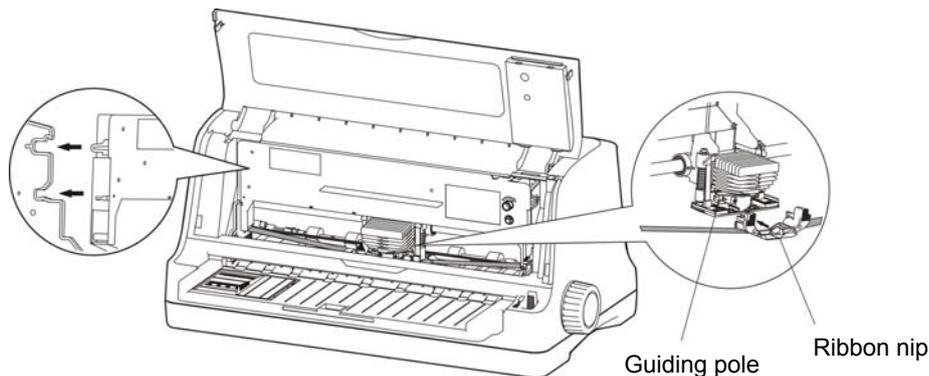

Figure 2-10 Install the ribbon cartridge
5. As shown in Figure 2-10, hold the middle position of the ribbon cartridge; make the buckles on the both sides aim at the slots of the printer, push it forward until it is locked in place. Then make the two holes of the ribbon nip aim at the two poles of the ribbon guide rack, and press them in place.
6. Make sure the ribbon core is smooth, and then turn the knob according to the arrow direction to tighten the ribbon core (as shown in Figure 2-10).